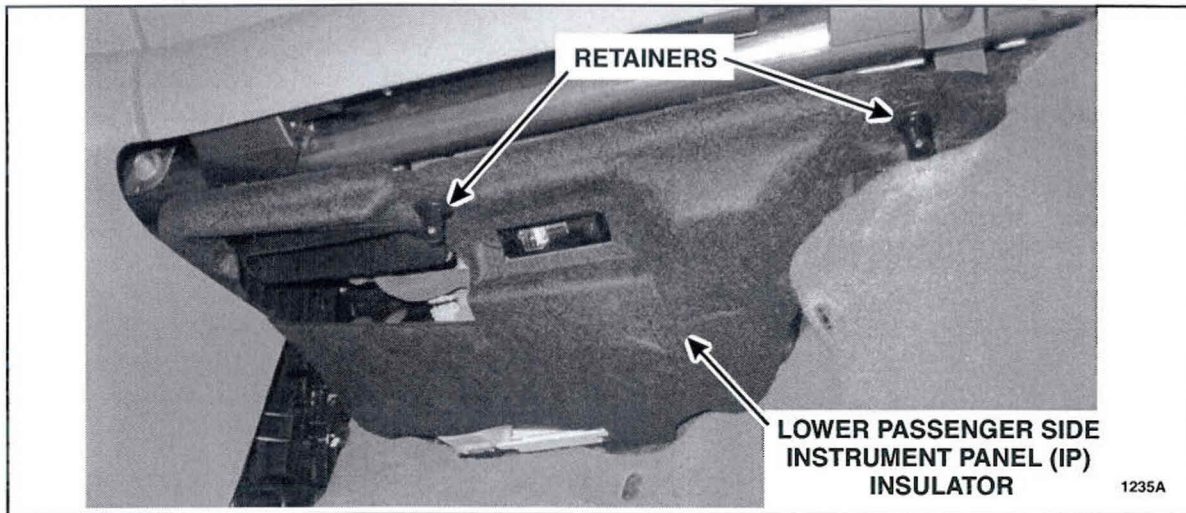

FIGURE 1
1. Remove the two retainers and the lower passenger side Instrument Panel (IP) insulator, to access the Body Control Module (BCM). See Figure 1.